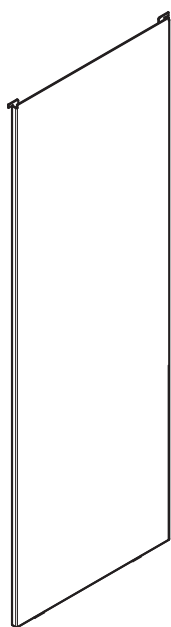
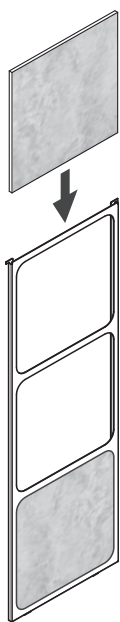

Figure 17.1
Figure 17.2
Your appliance ships with two different side options, one is a solid side panel (**Figure 17.1**) and tile side panel (**Figure 17.2**). There are two of each and no left or right side, these can be changed at anytime.
3. Stack non-combustible material tiles in tile frame as shown in **Figure 17.2**.